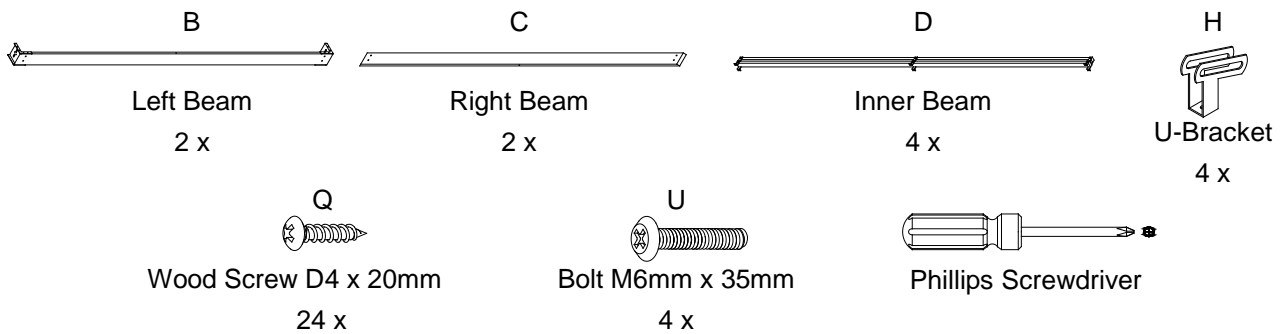

Fig. 2
2. Attach U-Bracket (H) to Left Beam (B) and Right Beam (C) using Bolt (U), tighten the bolt with Phillips Screwdriver. Do not tighten up the bolt, let U-Bracket slightly loose. (See **Fig. 2 & 3**)
Attach Inner Beam (D) to the pre-drilled holes on Left Beam (B) and Right Beam (C) using Wood Screws (Q), tighten up with Phillips Screwdriver. (See **Fig. 2 & 3**)